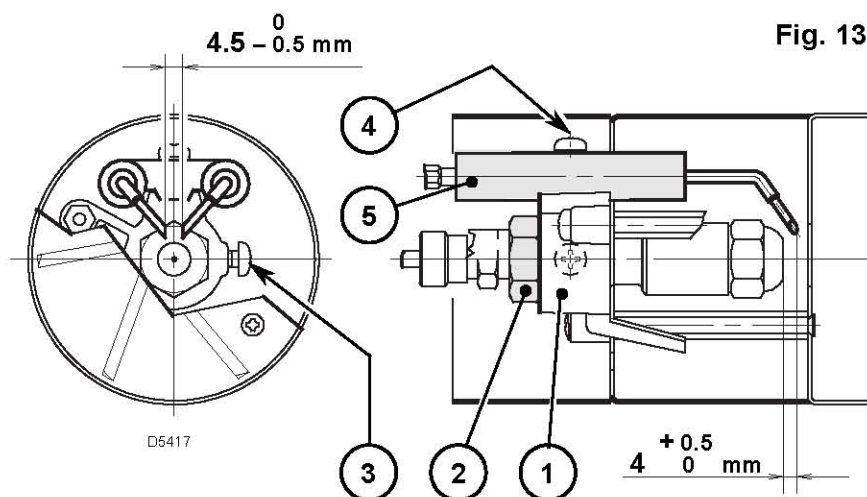

Fig. 13
- Remove nozzle-holder assembly (1) after loosening screws (2) and nut (3), remove small cables (4) from the control box and the flame detector (5).
- Withdraw the small cables (4) from the electrodes, remove the diffuser disc-holder assembly (8) from the nozzle-holder assembly (1) after loosening screw (3, fig. 13, page 7).
- Screw the nozzle (9) correctly and tighten it as shown in figure.
4.2 ELECTRODES ADJUSTMENT (see fig. 13)